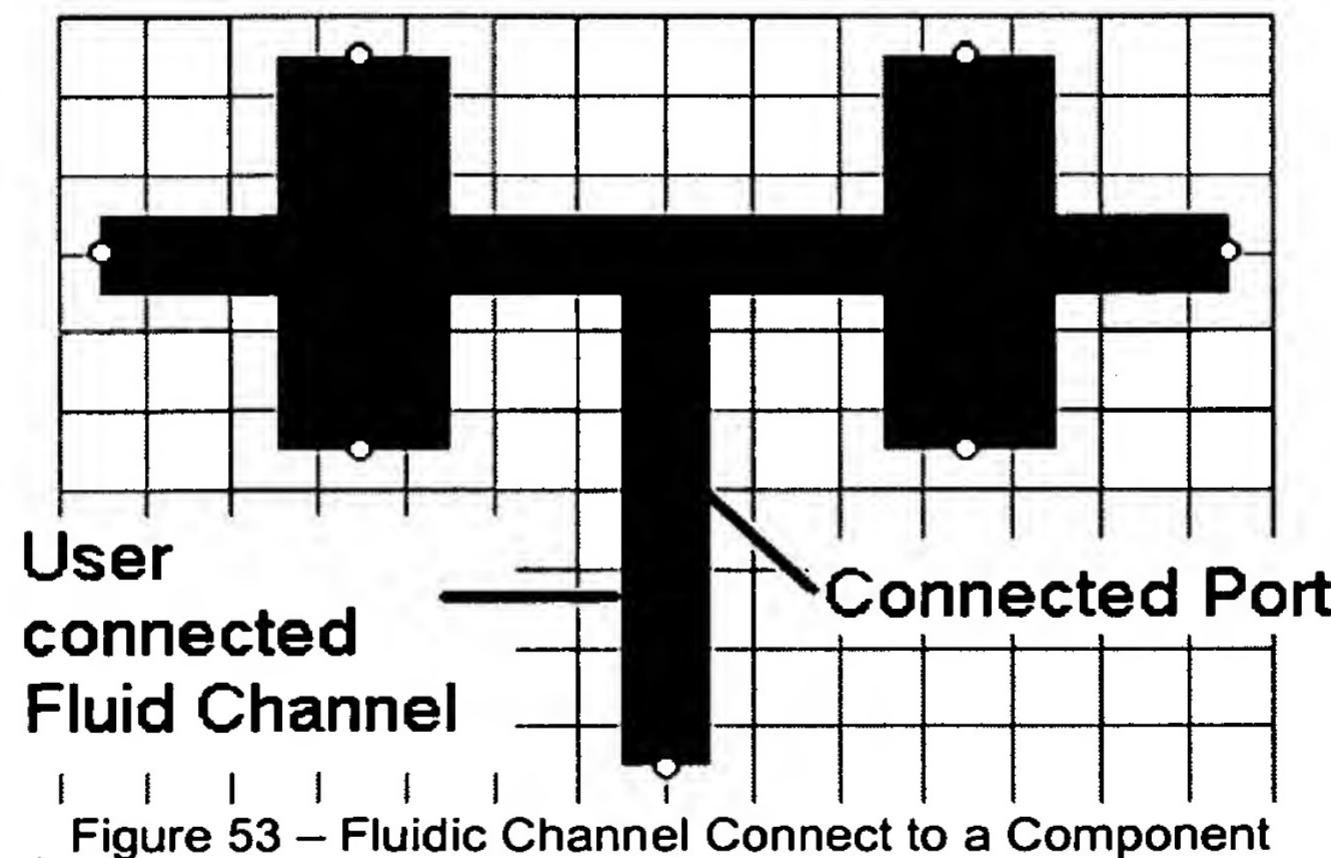

Figure 53 – Fluidic Channel Connect to a Component
- Ports once successfully connected they appear as black filled circles. See Figure 53.